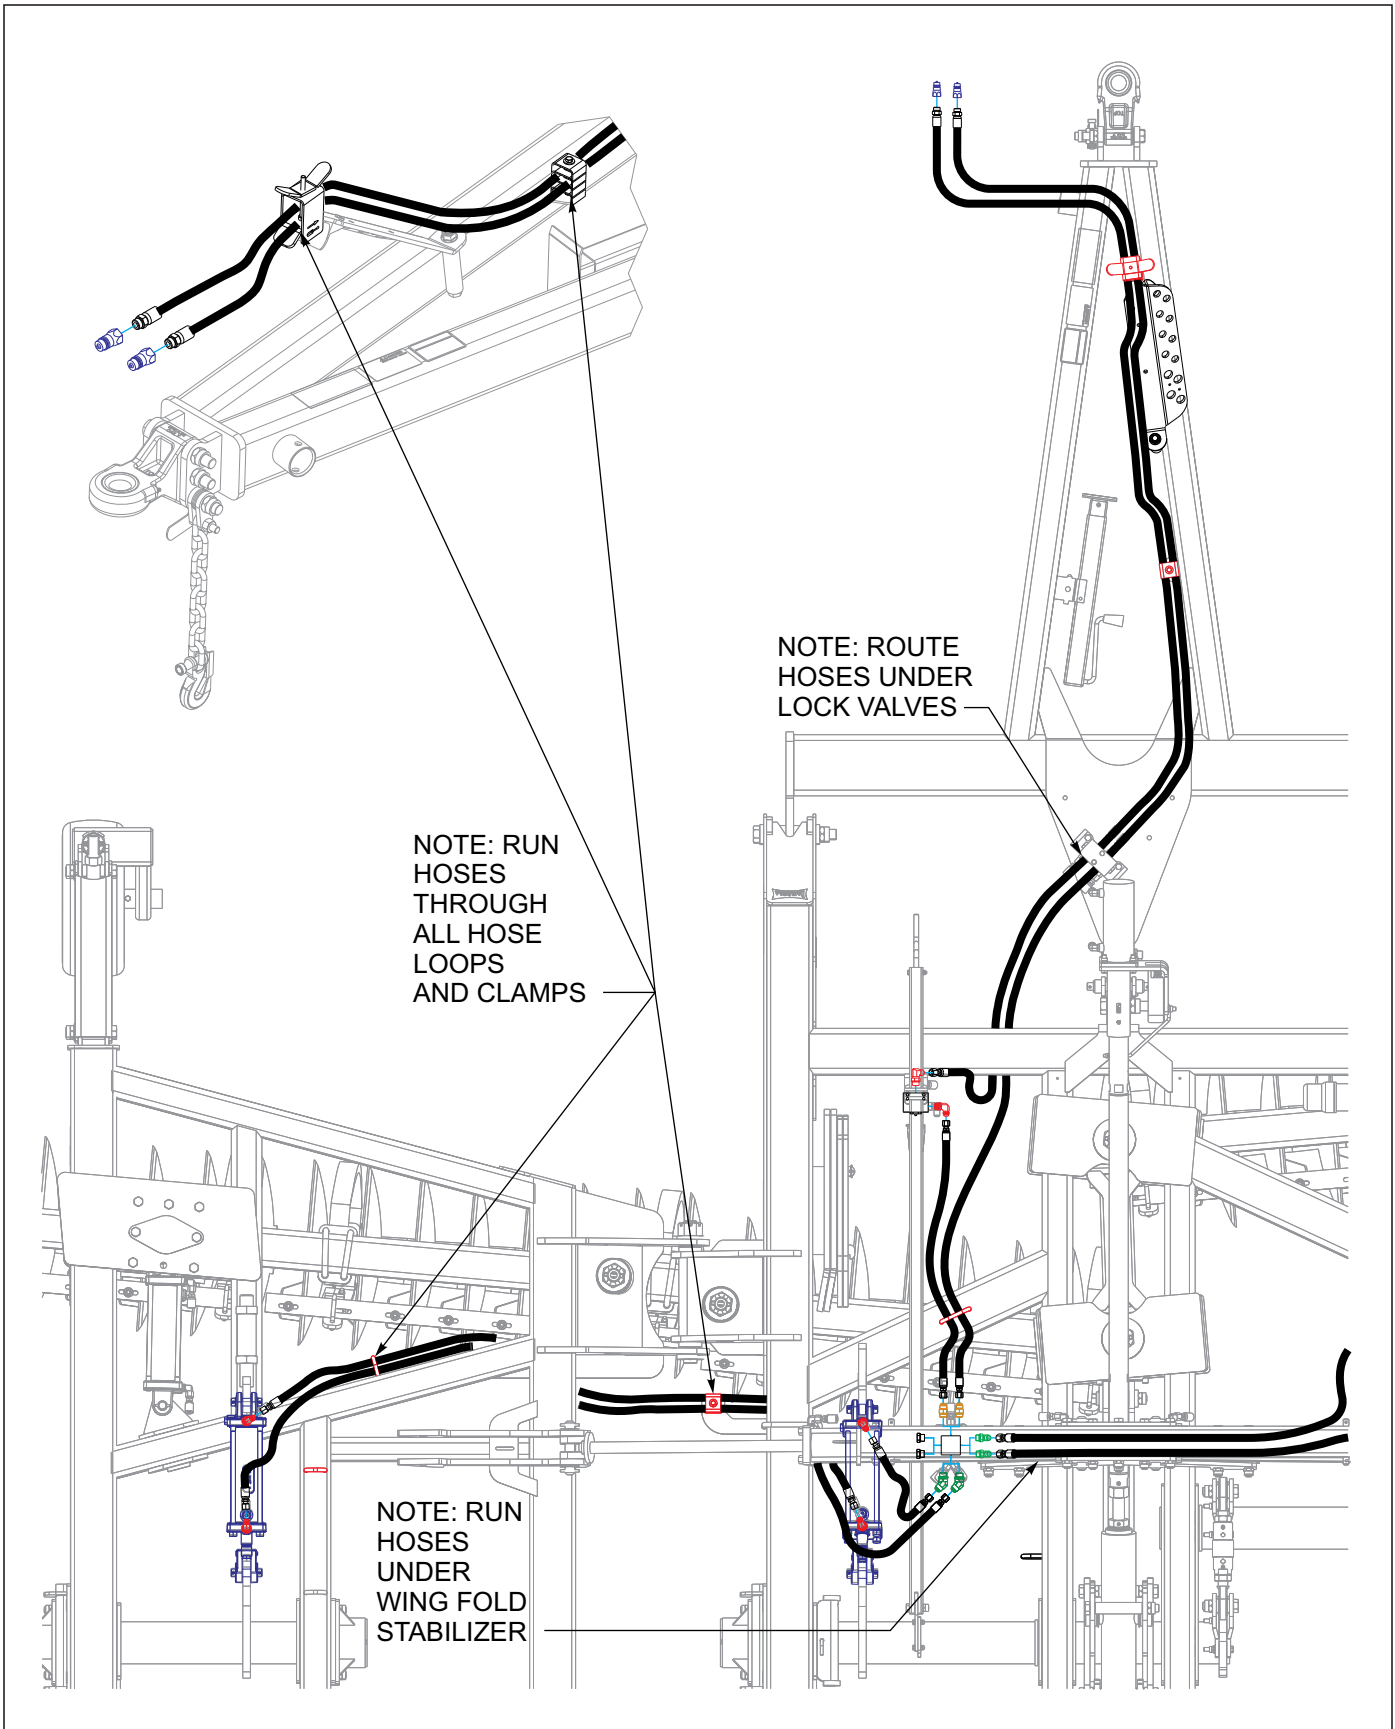
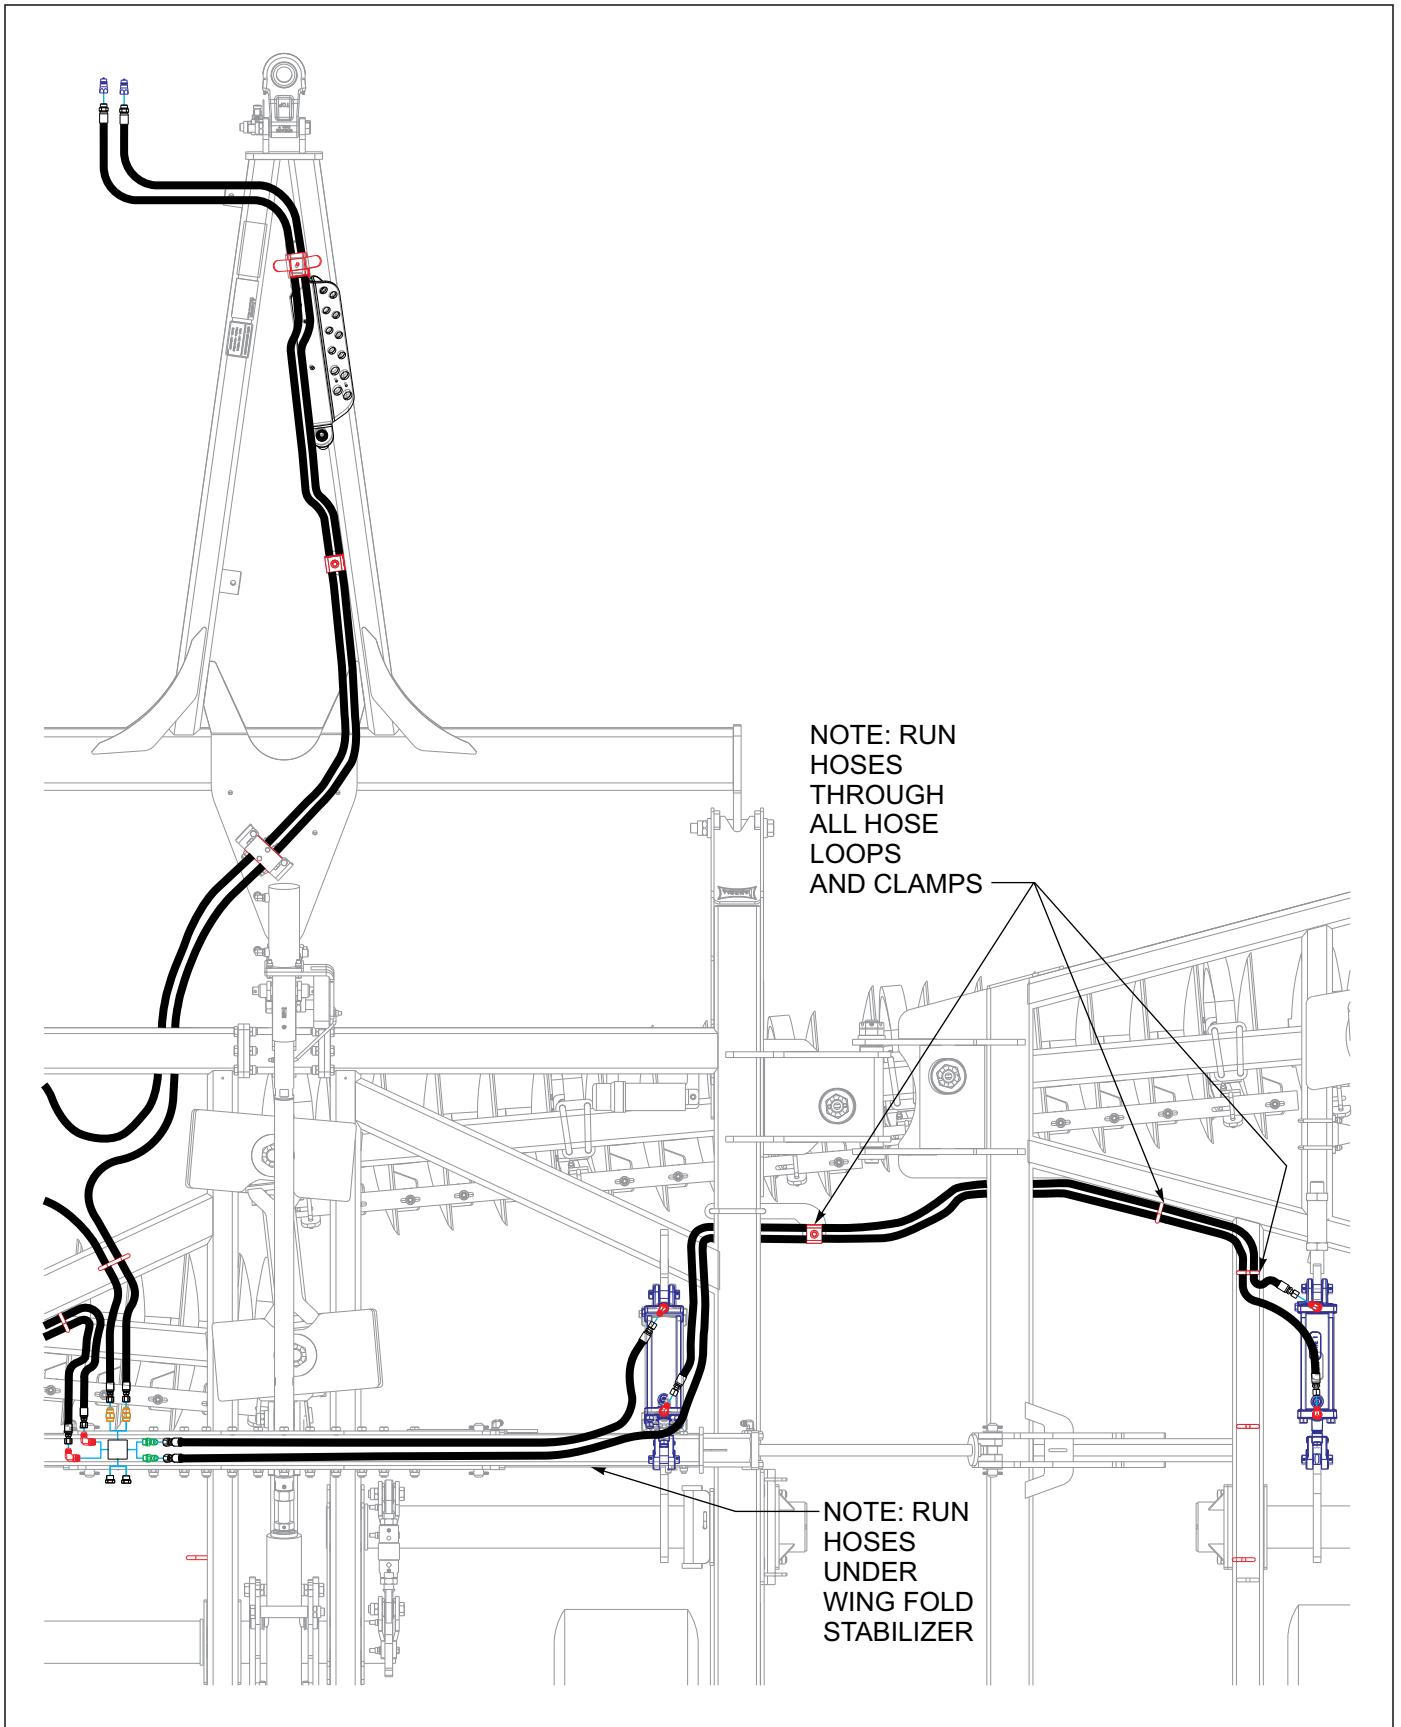
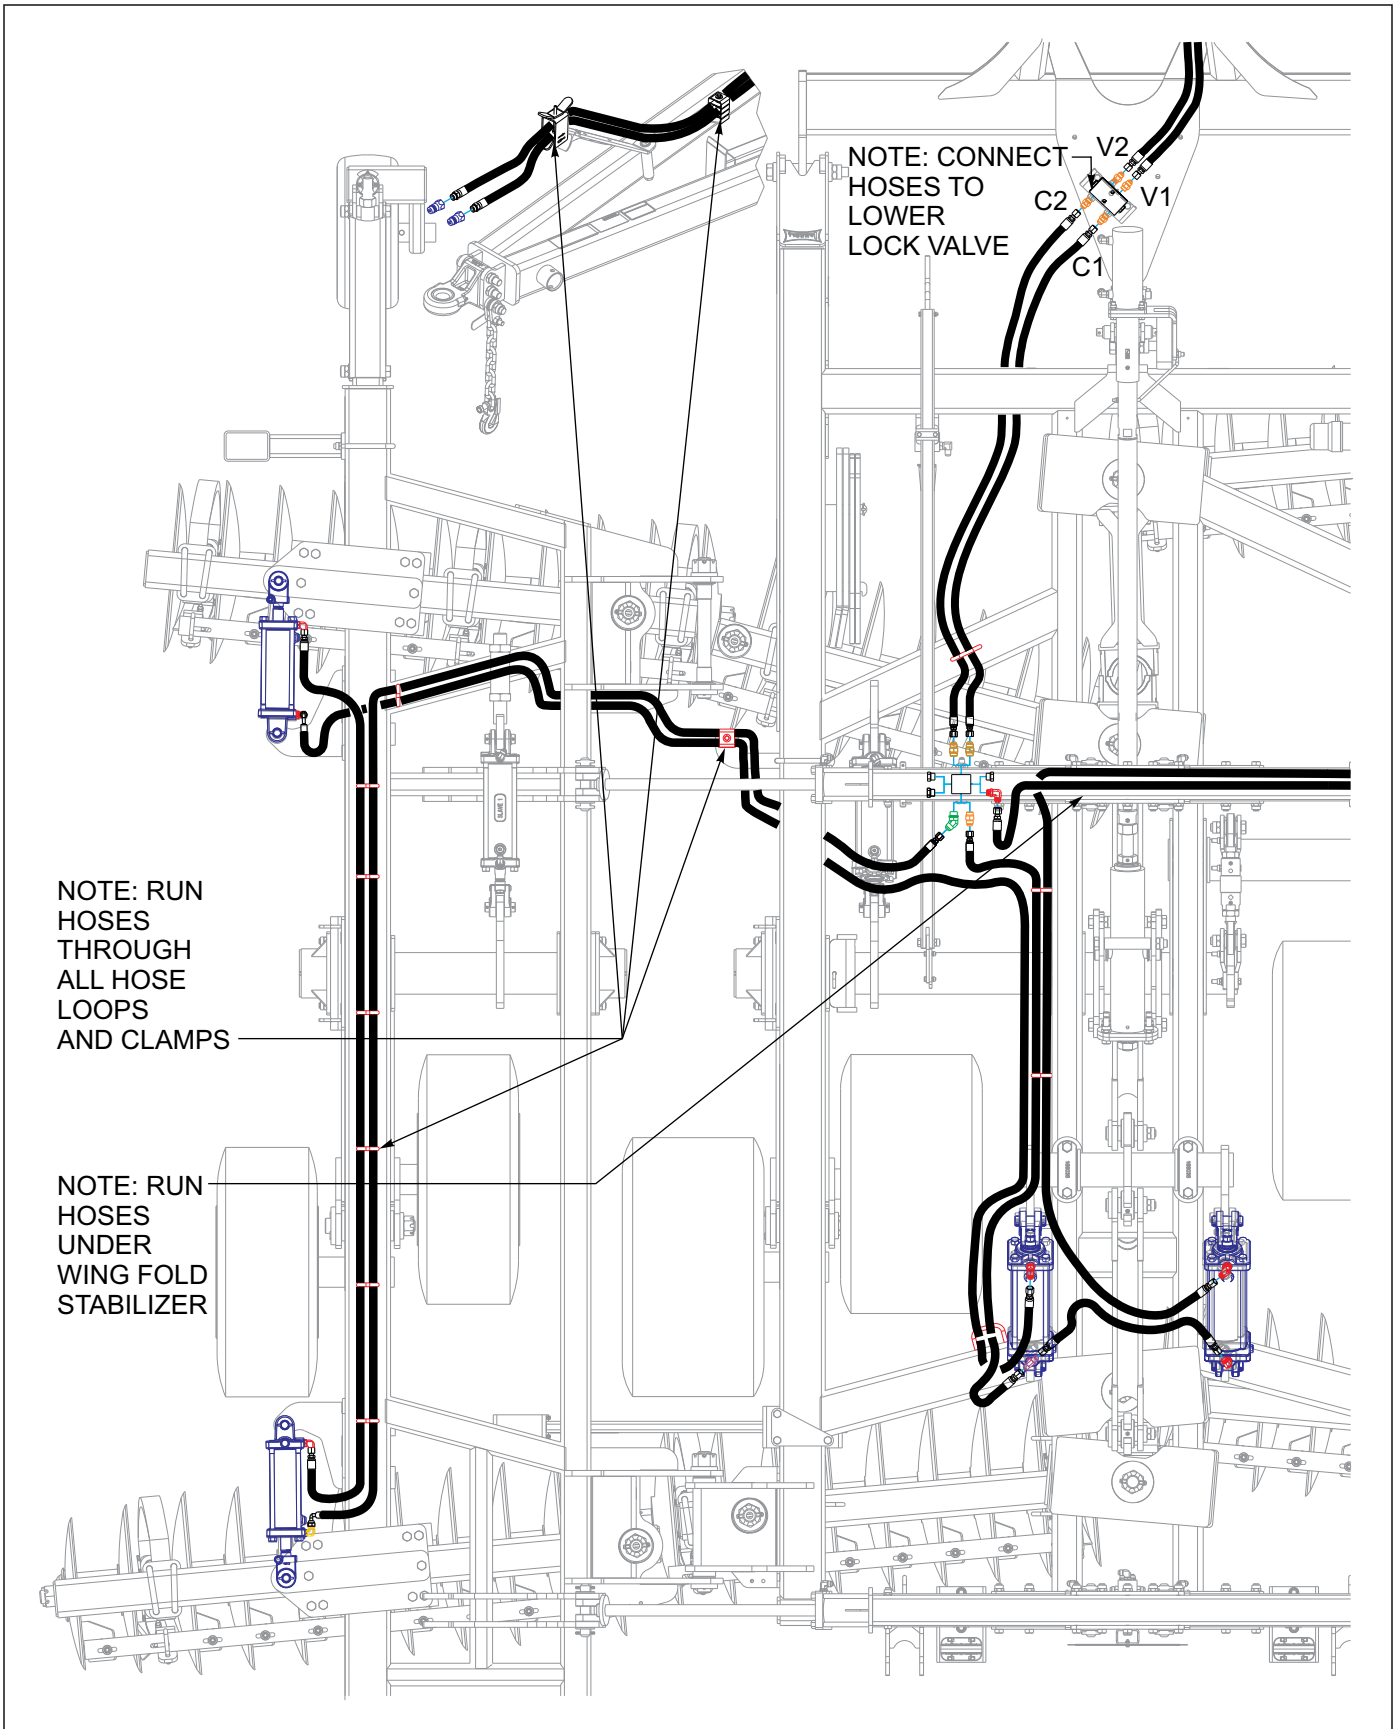

Figure 3-13: Lift Hydraulic Layout 7530-23'/26'/29' LH
Figure 3-16: Lift Hydraulic Layout 7530-32'/35' RH
Figure 3-32: Gang Hydraulic Layout 7530-23' LH
7. Install hose mount plates on front of center frame outside tubes (See Figure 3-7.) using 5/8-11 x 6-11/16 x 7-1/2 u-bolts and 5/8-11 lock nuts. Install hose clamps with 3/8-16 x 3 hex bolt, 3/8-16 lock nuts and 3/8-16 flat washer on both sides side. Run lift hydraulic (See Figure 3-13. through See Figure 3-16.) and gang hydraulic hoses (See Figure 3-32. through See Figure 3-37.) through hose clamps).
8. Install hose mount on front of front fold cylinder mount plate (See Figure 3-8.) using 3/4-10 x 6 hex bolts and 3/4-10 lock nuts on 7530-32' and 7530-35' models only. Install hose clamp holder with 1/2-13 x 3 hex bolt, 1/2-13 lock nuts. Run lift hydraulic (See Figure 3-13. through See Figure 3-16.) and gang hydraulic hoses (See Figure 3-32. through See Figure 3-37.) through hose clamps).